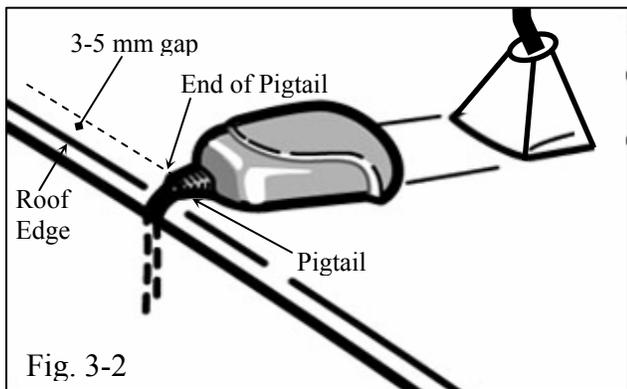

Fig. 3-2
! (2) In order to prevent the rear door from interfering with the pigtail on the antenna make sure there is approximately a 3-5mm gap between the end of the pigtail on the antenna and the roof edge as shown. (Fig. 3-2)
(b) Route the antenna wire through the rear hatch opening as shown. (Fig. 3-2 & 3-3)